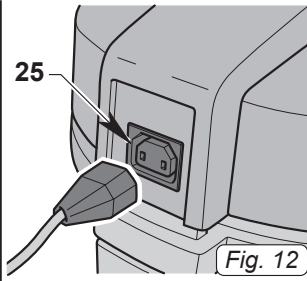

Fig. 12
- Connect the electrical brush's plug to the socket (25 Fig.12) located on the top of the vacuum (maximum output 200 W)